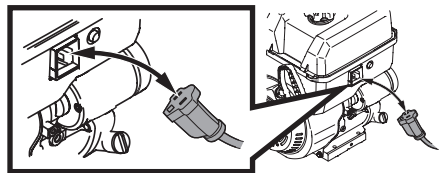

Figure 3
**NOTES:** When connecting power cord always connect power cord to electric starter inlet on engine first; then into outlet (Figure 3).